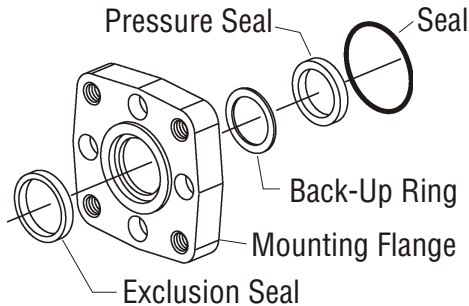

Figure 5-26, Mounting Flange Seals
- The exclusion seal, back-up ring, pressure seal and seal will come off with the mounting flange (Figure 5-26).